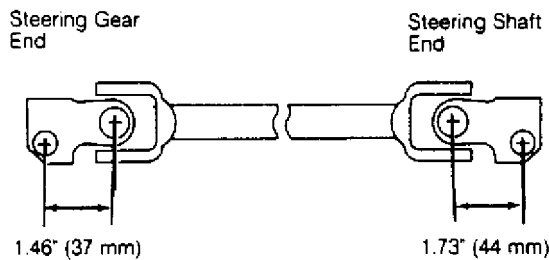

Fig. 4: Installing Lower Joint Assembly (Precis)
CAUTION: Note direction and location of installed lower joint assembly before removing. Ensure joint assembly is installed correctly, as joints at ends of shaft are of different length. See Fig. 4.
1) Connect lower joint assembly upper joint to steering shaft. Ensure joint is installed in correct direction. See Fig. 4. Align lower joint assembly to steering gear pinion and temporarily tighten lower joint bolt.